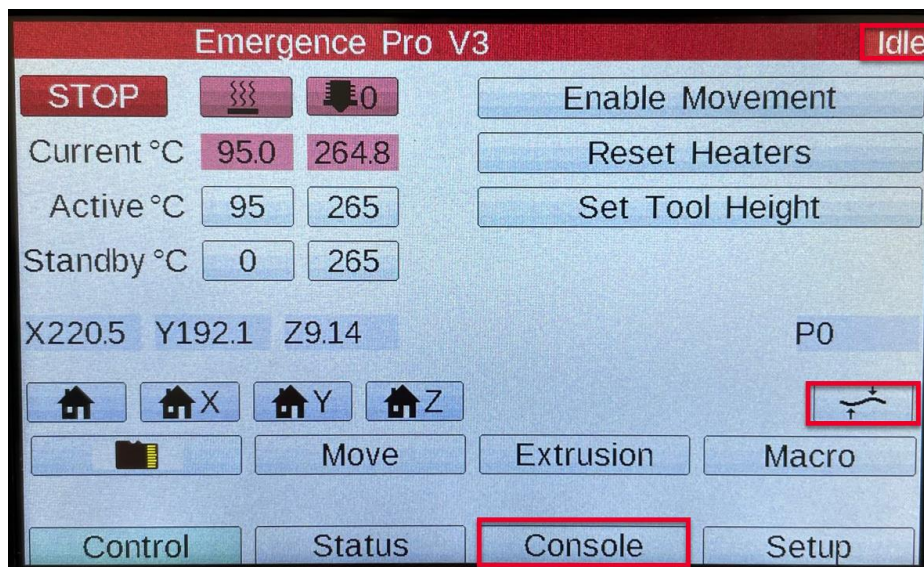

Figure 16: Bed Level
1. Check the status on the Printer Control Screen in the upper right corner. It should say **Idle** (Figure 16).
3. On the Printer Control Screen, select **Bed Level** button on the right side of the display (Figure 16).